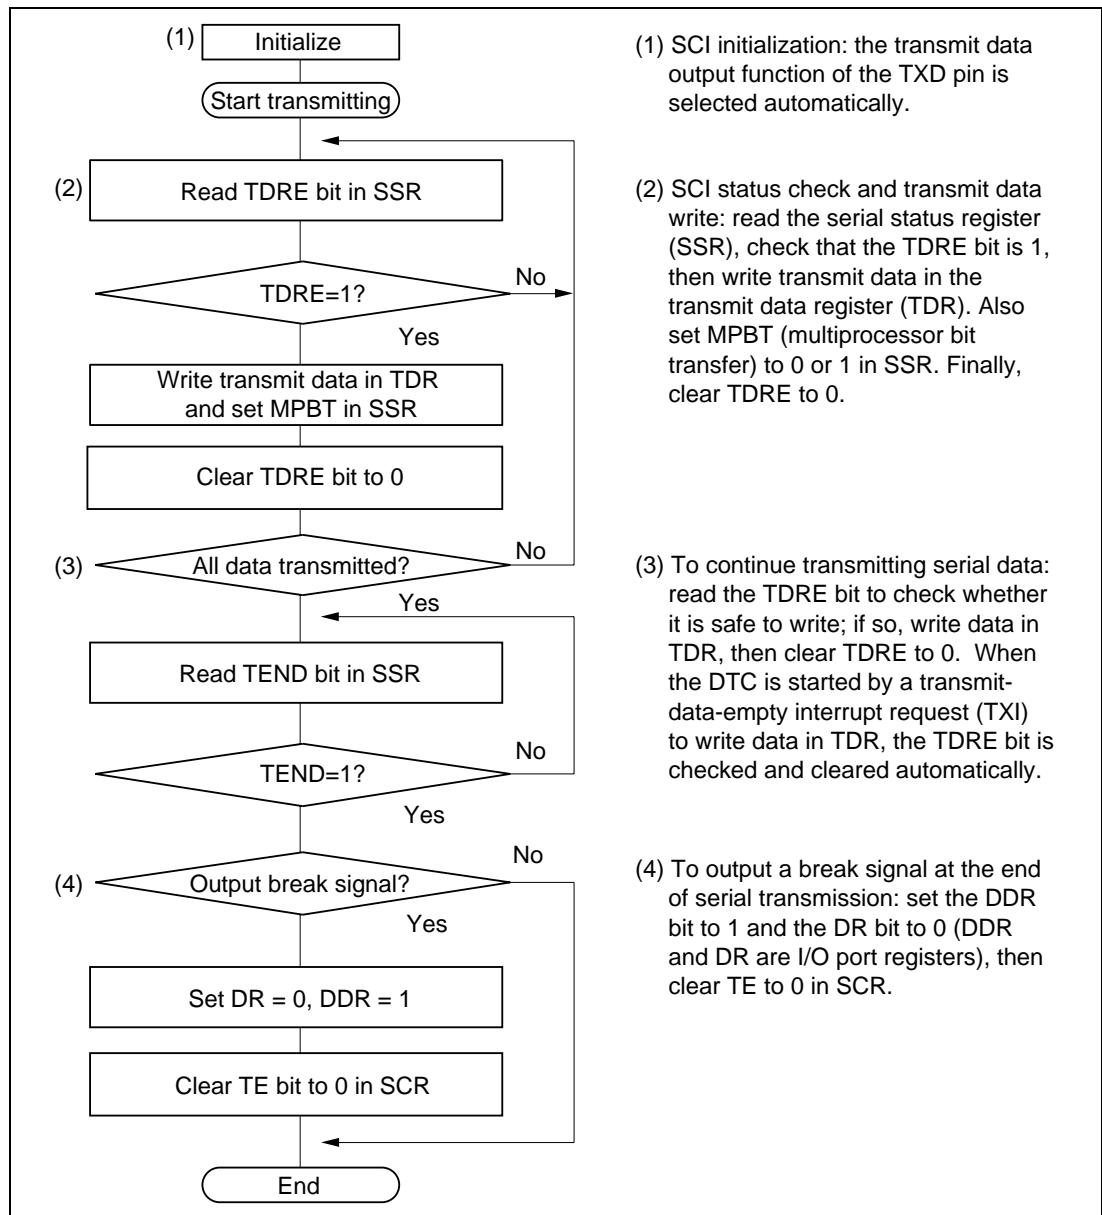

Figure 14-17 Sample Flowchart for Transmitting Multiprocessor Serial Data
**Transmitting Multiprocessor Serial Data:** Figure 14-17 shows a sample flowchart for transmitting multiprocessor serial data and indicates the procedure to follow.